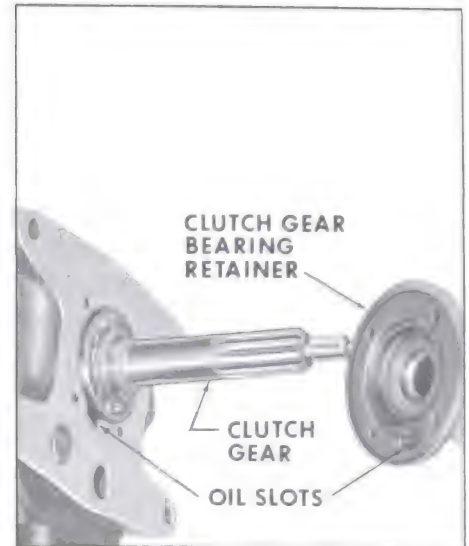

Figure 4-36—Clutch Gear Bearing Retainer Oil Slot
11. Install the clutch gear bearing retainer and gasket. Make sure the oil slot in the retainer lines up with the oil slot in the front face of the case. Do not allow the gasket to protrude beyond the edge of the retainer. See Figure 4-36.